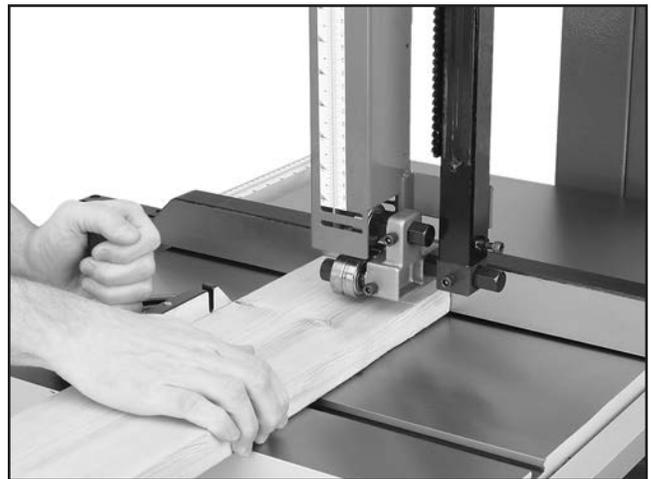

Figure 41. Crosscutting with miter gauge.
5. After all safety precautions have been met, turn the bandsaw **ON**. Slowly feed the workpiece into the blade and continue the cut until the blade is all the way through the workpiece. **Figure 41** shows a typical crosscutting operation.